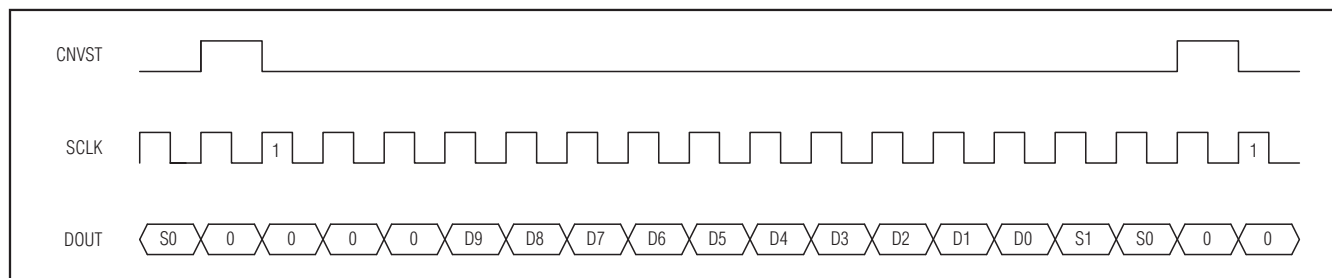

Figure 17. DSP Interface—Continuous Conversion
The MAX1070/MAX1071 can also be connected to the TMS320C54\_ by using the data transmit (DX) pin to drive CNVST and the CLKX generated internally to drive SCLK. A pullup resistor is required on the CNVST signal to keep it high when DX goes high impedance and 0001hex should be written to the DXR continuously for continuous conversions. The power-down modes may be entered by writing 00FFhex to the DXR (see Figures 17 and 18).
registers should be configured for late framing (LAFR = 1) and for an active-low frame (LTFS = 1, LRFS = 1) signal. This is also the best way to enter the power-down modes by setting the word length to 8 bits (SLEN = 1001). Connect the  $V_L$  pin to the ADSP21\_ \_ supply voltage when the MAX1070/MAX1071 are operating with a supply voltage higher than the DSP supply voltage (see Figures 17 and 18).